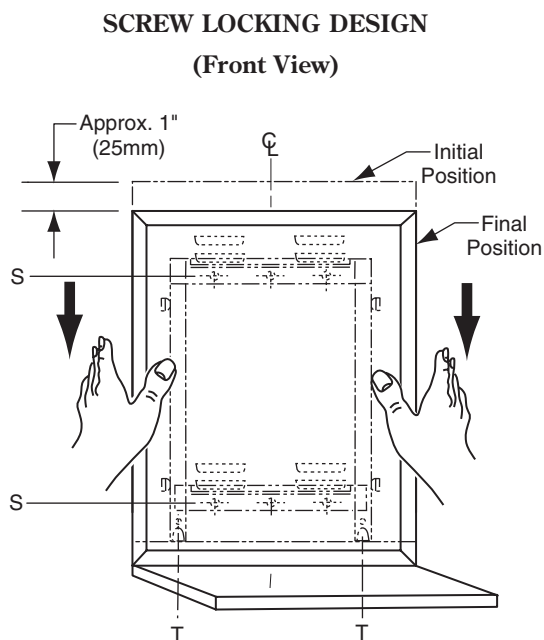

Figure: 4
**Screw locking Design** — Lock mirror to wall hanger by tightening Phillips-head locking screws that are concealed in the bottom of frame by points indicated by a *T*. Mirror may be unlocked from wall hanger by loosening locking screws and lifting mirror off of concealed wall hanger (see figure 4).